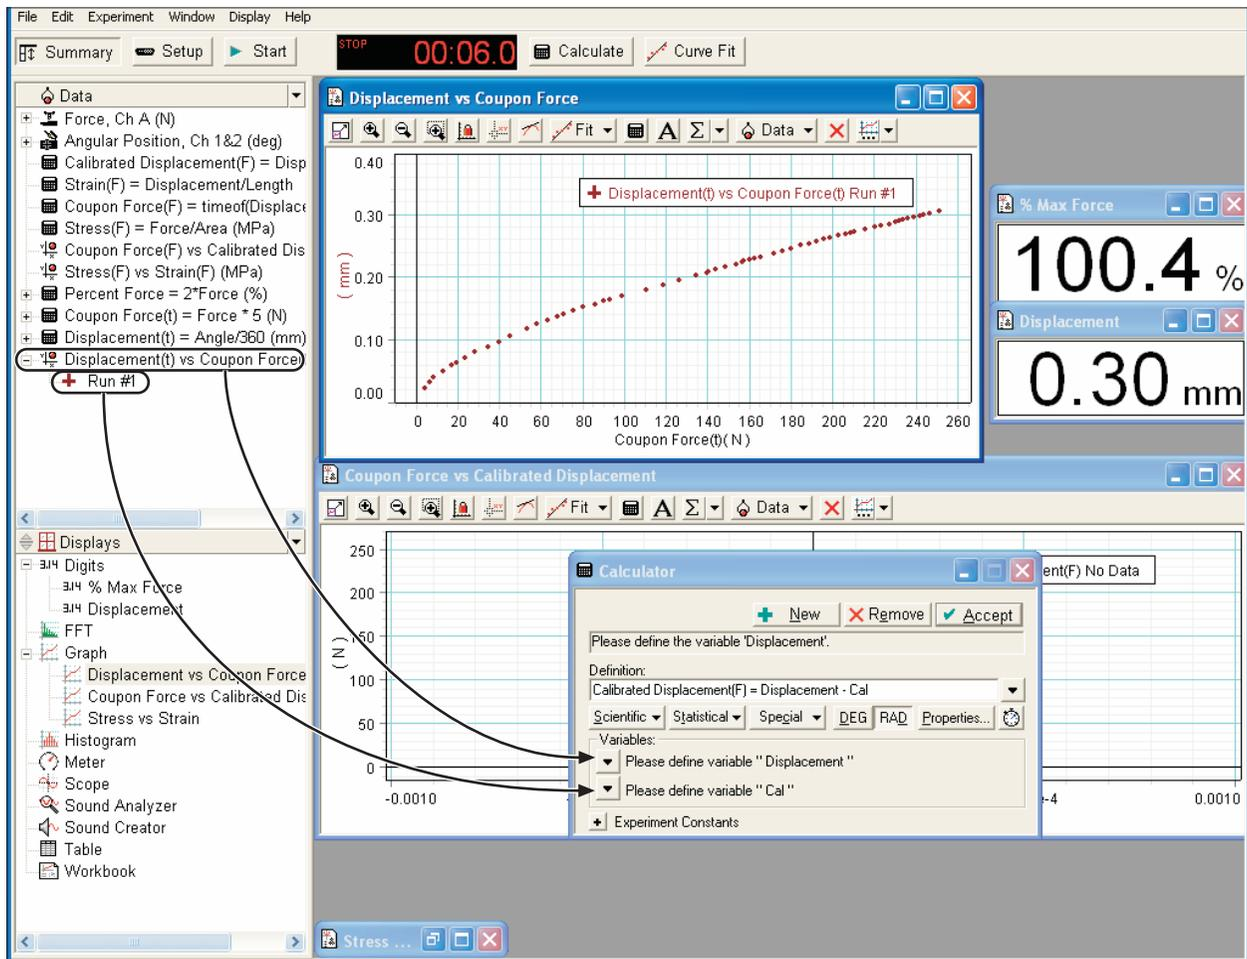

Figure 5: Define Variables in Calculator
- a. Drag “Displacement(t) vs Coupon Force(t) (mm)” to “Please define variable ‘Displacement.’” (Figure 5)